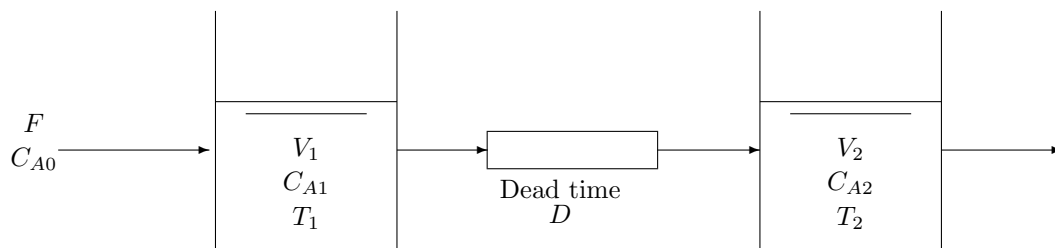

Figure 1: Reaction system with dead time plug flow
Consider the system shown in Figure 1 that has two stirred chemical reactors separated by a pipe which is so long that liquid exiting the first tank takes D seconds to reach the second tank. There is plug flow through the pipe (no mixing, no diffusion). Assume constant holdups (V_1 and V_2), constant throughput (F), constant density, isothermal operation at temperatures T_1 and T_2 , and first-order kinetics with simultaneous reactions: